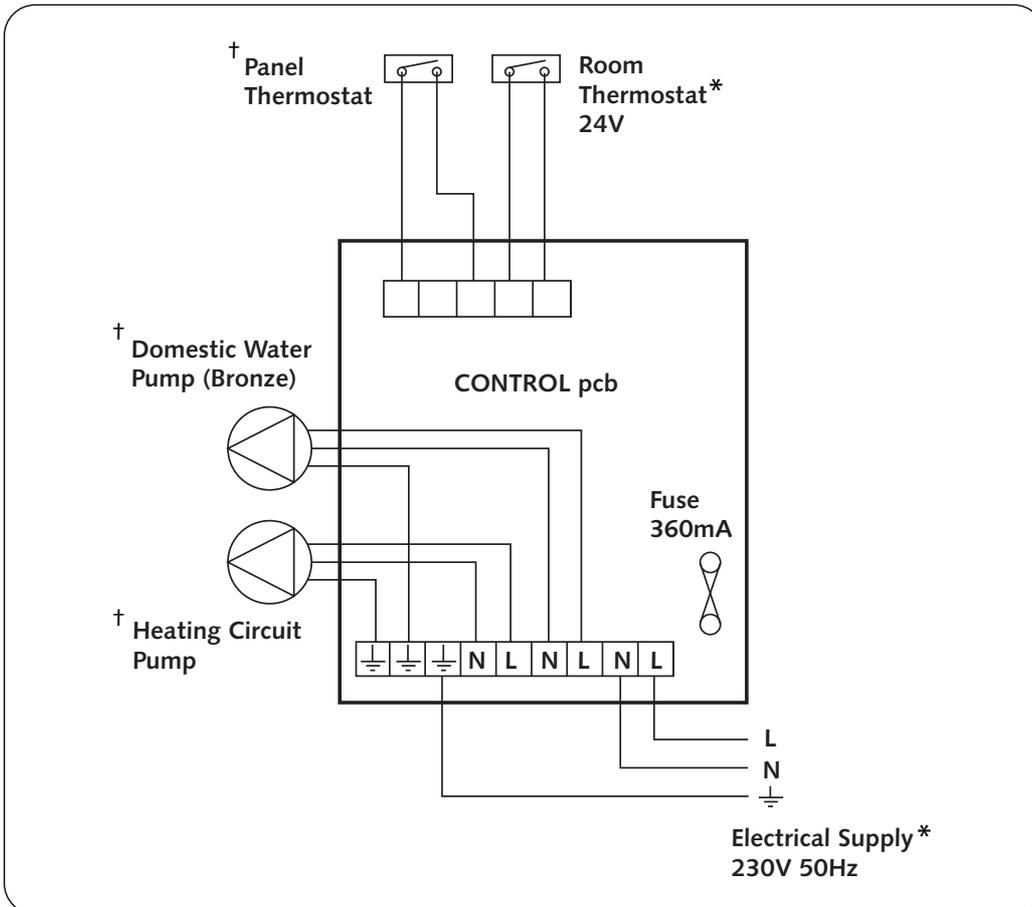

Fig. 5
3. Electrical connections (see Fig.5 page 5).